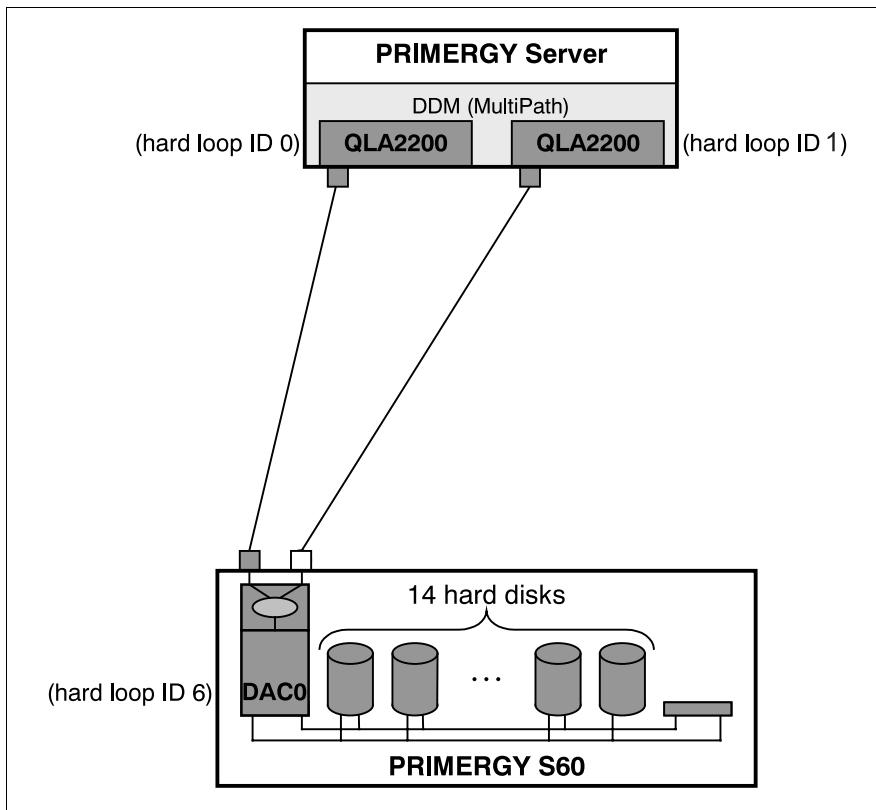

Figure 18: Path Redundancy with Single FFx-RAID Controller
- Loop IDs (see figure 18 on page 25)